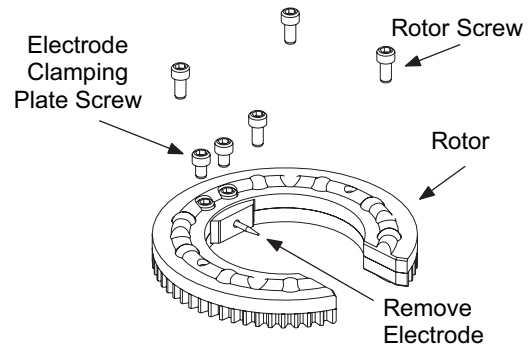

Figure 38 *Removing the Rotor and Electrode Clamping Plate Screws*
1. Remove the rotor screws and the electrode clamping plate screws from the rotor. Remove the electrode from the ceramic insert. See Figure 38.